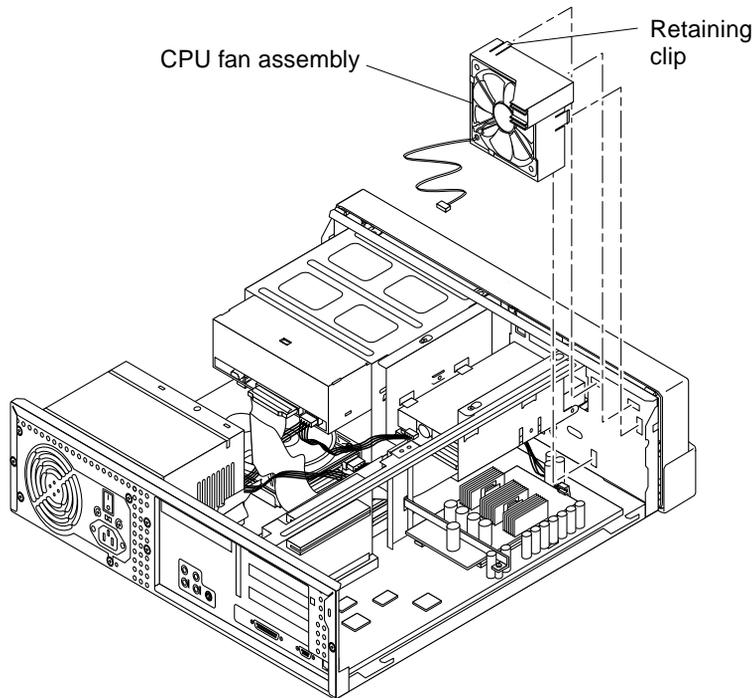

FIGURE 8-13 Removing and Replacing the CPU Fan Assembly (Ultra 5)
5. Remove the CPU fan assembly from the Ultra 5 as follows (FIGURE 8-13):
- 3. Replace the CPU fan assembly into the Ultra 5 as follows (FIGURE 8-13):**